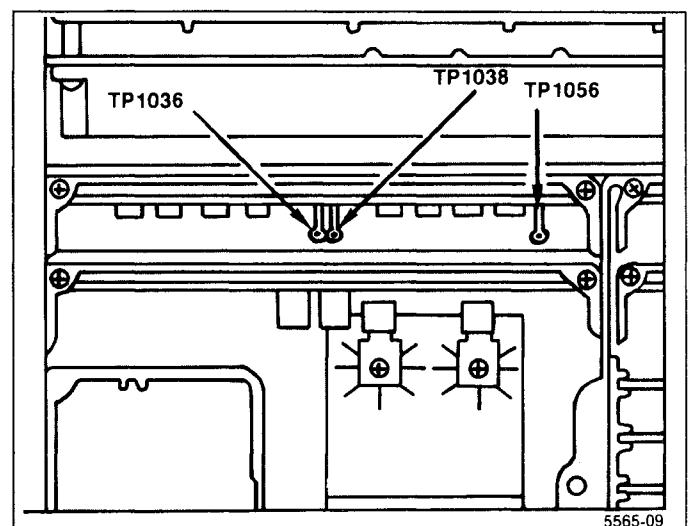

Figure 5-5. Test points on the CRT Readout board.
i. Disconnect the voltmeter, set TIME/DIV to AUTO, change the test oscilloscope to Ext Trigger, and apply the signal at TP1038 on the Crt Readout board (Figure 5-5) to the test oscilloscope Ext Trigger input. Set the test oscilloscope Time/Div to  $2 \mu$ .